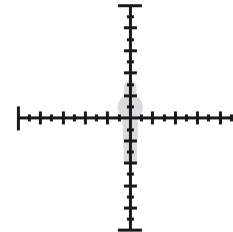

Fig. 4-15
30.48 cm  $\div$  1 MRAD  $\times$  10 = 304.8 m (Fig. 4-15)